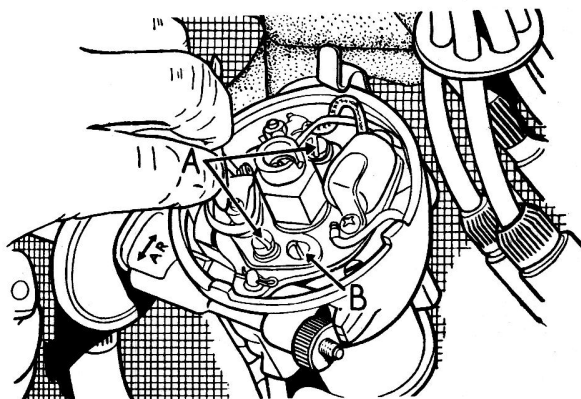

FIG.4.1. CHECKING CONTACT BREAKER GAP – DMBZ6A DISTRIBUTOR
5 Refer to Fig.4.1 which illustrates the DMBZ6A type of distributor. The fixed plate is held by two screws (A) one of which passes through an elongated hole in the plate. Slacken these screws and rotate screw B, which is an eccentric headed adjusting screw, until the correct contact breaker gap is obtained. Now tighten screws "A".